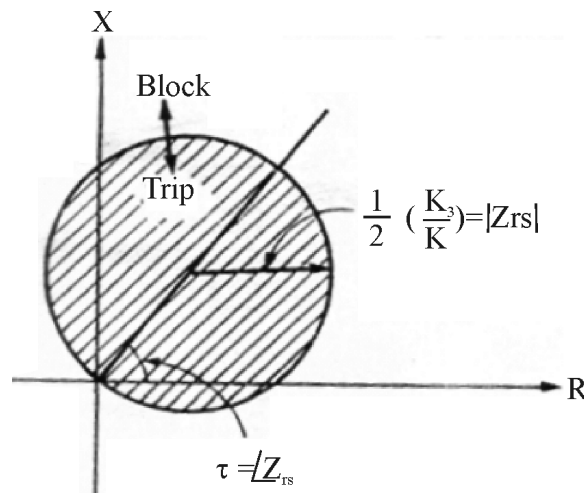

Fig. D3 Rx-diagram of a mho relay
The right hand side of Eqn (1) is a circle with centre located in the line determined by the parameter  $\tau$  and passing through the origin as shown in Fig D3. The characteristic in this case is inherently directional. This characteristic can be alternatively expressed as